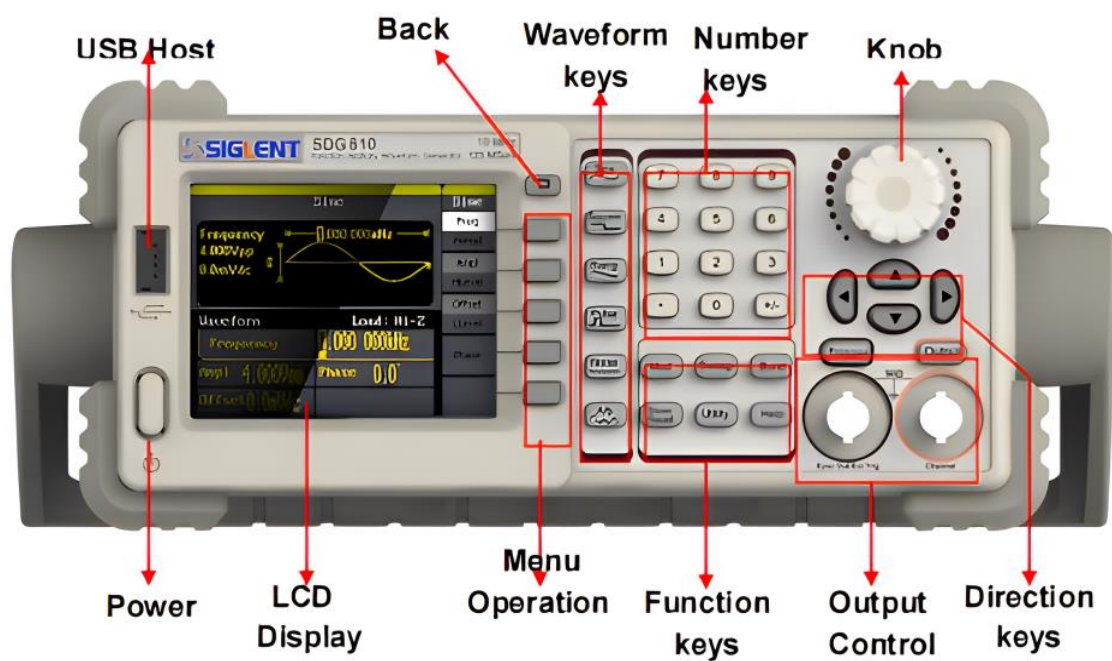

Figure 2: Function Generator (SDG810)
3. **Output Control:** As is shown in Figure 2, there are two buttons on the right side of the operation panel, which are used to output/trigger control. Press Output button, activate or deactivate the output signal. **You will not get the signal without pressing output button.**